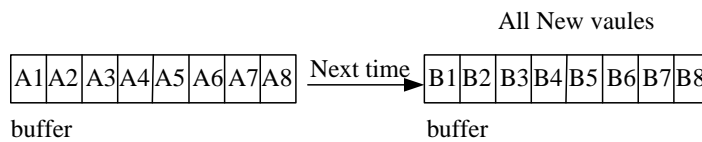

Figure 3-40
1. Assuming the Reading Average Time is set to = 8, the Average Method is set to FIXED, readings sampling is that the device clears all of the old samples (A1 ~ A8) in the buffer and saves the new samples (B1 ~ B8), then average them in repetition as Figure 3-40 shows.